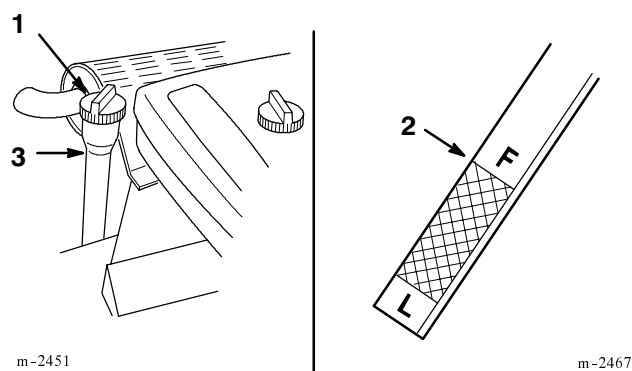

Figure 18
3. Clean around the oil dipstick (Fig. 18) so dirt cannot fall into the filler hole and damage the engine.
4. Unscrew the oil dipstick and wipe the metal end clean (Fig. 18).
5. Slide the oil dipstick fully into the filler tube, do not thread onto tube (Fig. 18). Pull the dipstick out and look at the metal end. If oil level is low, slowly pour only enough oil into the filler tube to raise the level to the “FULL” mark.
6. Slowly pour approximately 80% of the specified amount of oil into the filler tube (Fig. 18). Now check the oil level; refer to Checking Oil Level, page 21. Slowly add additional oil to bring to “FULL” mark on dipstick.